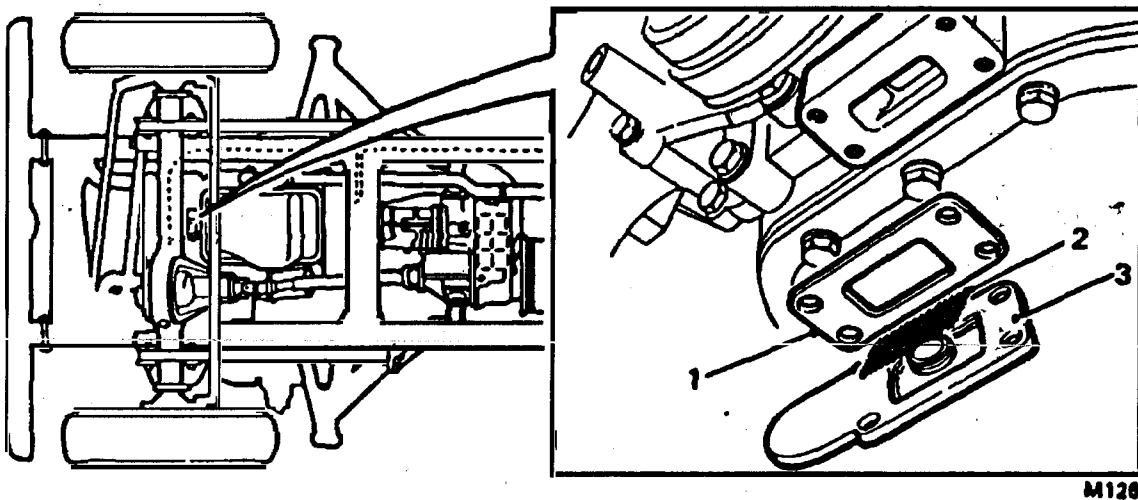

Fig 126 Engine front timing cover renewal
19.2 Undo the four bolts (1) and remove the washers, plate Fig 126 (3), gauze (2) and gasket (1).